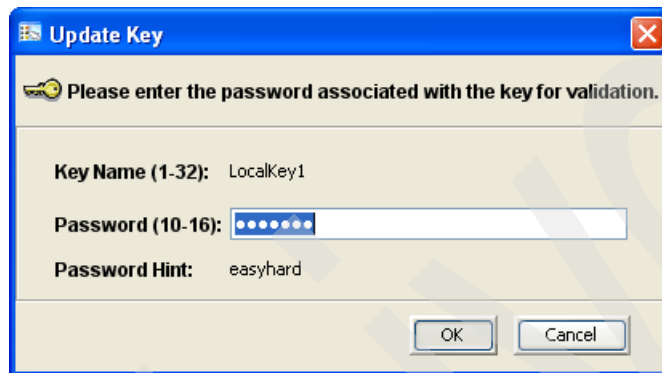

Figure 12-63 Password entry window with hint
3. Enter the correct password on the panel shown in Figure 12-63 and click **OK**.